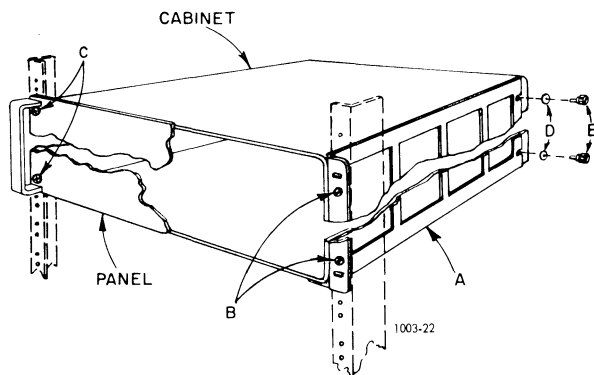

Figure 2-2. Relay rack mounting.
dently of the other. Figure 2-2 illustrates both bracket attachment and rack mounting.
c. Place the right side rack support (A) on the right side of the cabinet. Be sure that the flange with the mounting holes is forward and flush with the front of the cabinet (see Figure 2-2) when the other flange (without holes) is resting against the bottom of the cabinet.
d. Assemble two pairs of flat washers (D) and thumbscrews (E).